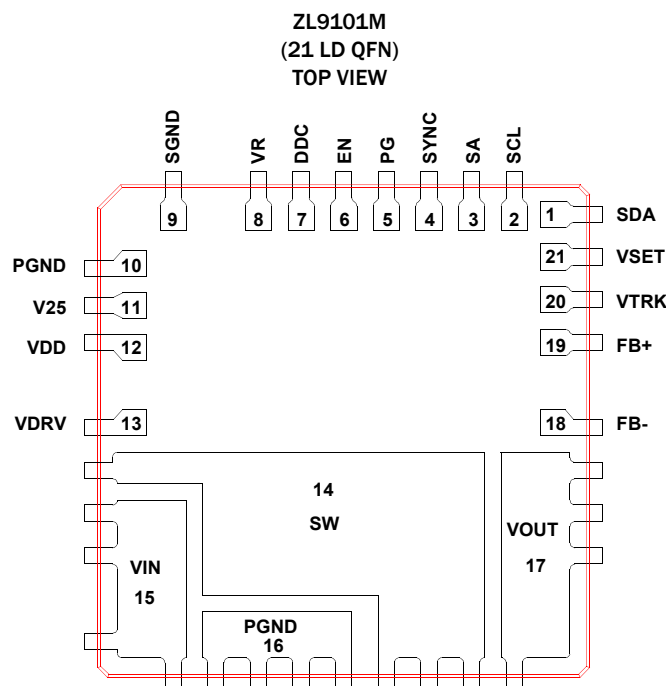

**FIGURE 1. A COMPLETE DIGITAL SWITCH MODE POWER SUPPLY, ONLY BULK INPUT AND OUTPUT CAPACITORS ARE REQUIRED TO FINISH THE DESIGN**
**Figure 1** represents a typical implementation of the ZL9101M. For PMBus operation, it is recommended to tie the Enable pin (EN) to SGND.